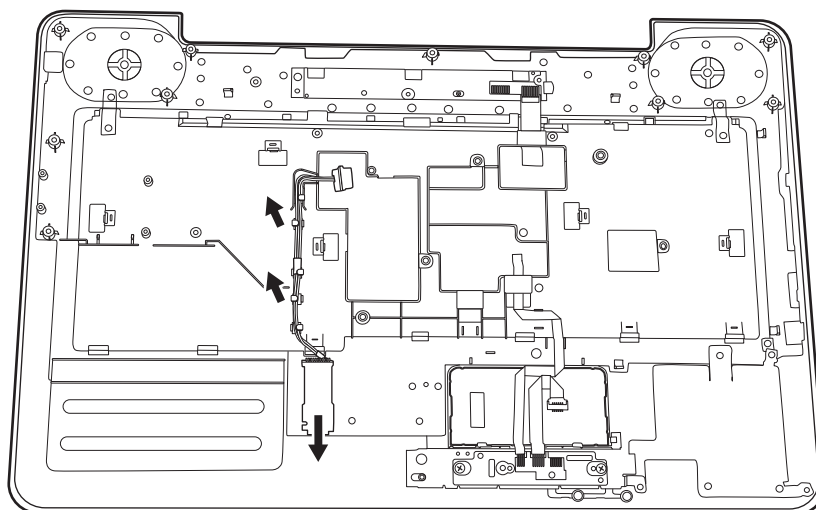

Figure 4.15 Removing the Bluetooth card
Remove the Bluetooth card according to the following procedures and Figure 4.15.
2. Press down the release latch and push the Bluetooth card in the direction indicated in figure 4.15, sliding the Bluetooth card out.